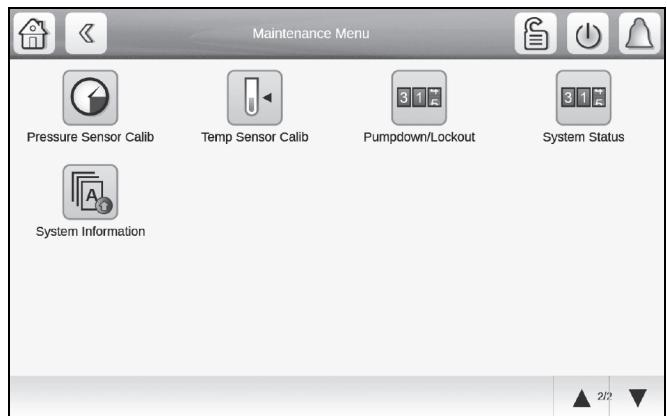

Fig. 42 — Pressure Sensor Calib Screen, Page 1
1. Go to **Main Menu → Maintenance Menu → Pressure Sensor Calib**. See Fig. 42 and 43.
- Go to **Main Menu → Maintenance Menu → Temp Sensor Calib**. See Fig. 42.